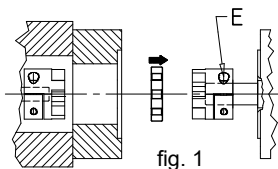

fig. 1
**Insert the half-coupling onto the servo motor shaft, as shown in fig. 1, abutting with elastomer ring seat.**